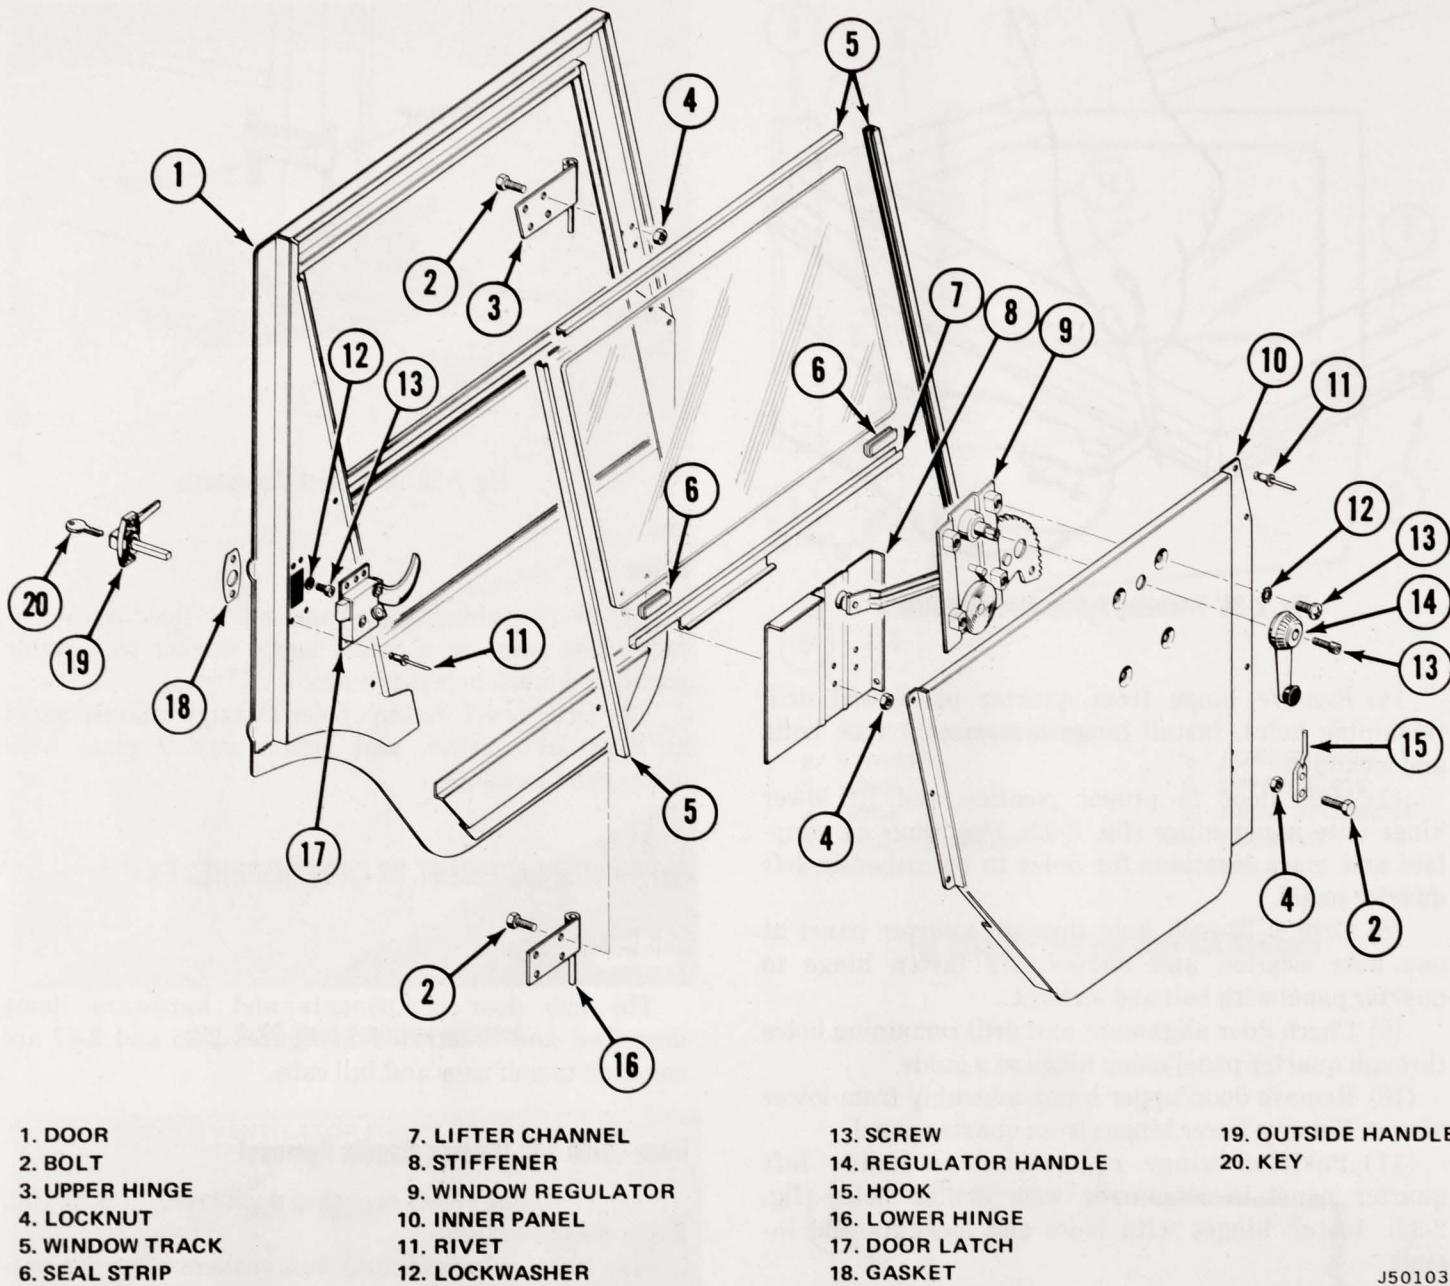

Fig. 2-36 Cab Door Components
The cab door components and hardware items described and illustrated in figures 2-36 and 2-37 are common to half cabs and full cabs.
(1) Drill out rivets securing door latch to door (fig. 2-36). Remove latch.
(2) Remove screws and lockwashers securing outside handle. Remove handle and gasket.
(1) Remove window regulator handle (fig. 2-36).
(2) Remove inner door panel.
- (1) Remove inner door panel (fig. 2-36).
- (2) Remove bolts and locknuts securing lower hinge and door stiffener to door. Remove hinge and stiffener.
- (3) Slide window glass out. If glass is to be replaced, remove lifter channel and two seal strips.
(1) Break adhesive bond with putty knife while pulling window track free over entire length (fig. 2-36). Remove window track.
(2) Apply 1/8-inch bead of 3M Super Weatherstrip Adhesive (or equivalent) over entire length of window channel.
(3) Position window track in door channel, starting at top, and press firmly into position.